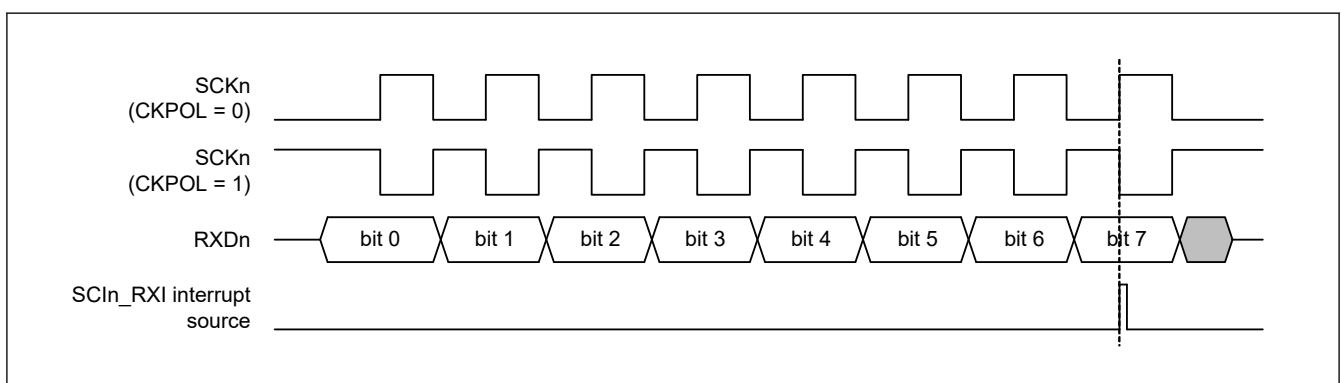

Figure 25.78 Timing of SCI_{In}_RXI interrupt in simple SPI mode with clock delay
- For the clock delay setting (SPMR.CKPH bit is 1), the receive data full interrupt (SCI_{In}_RXI) is generated before the final clock edge on the SCK_n pin as indicated in Figure 25.78. If the TE and RE bits in the SCR register become 0 before the final edge of the clock signal on the SCK_n pin, the SCK_n pin is placed in the high-impedance state, so the width of the last clock pulse of the transfer clock is shortened. Additionally, an SCI_{In}_RXI interrupt might lead to the input signal on the SS_n pin of a connected slave going to the high level before the final edge of the clock signal on the SCK_n pin, leading to incorrect operation of the slave.